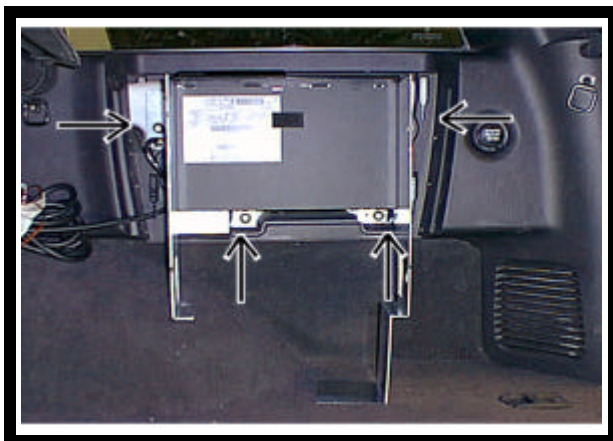

FIGURE 10
11. Install CD player and bracket over O.E. studs and secure using original hardware. See Fig. 10.